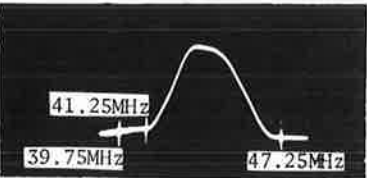

FIG. 1
41.25MHz	Adjust L112 Top and Bottom for MINIMUM. See Figure 1.
47.25MHz	Adjust L103 Top and Bottom for MINIMUM. See Figure 1.